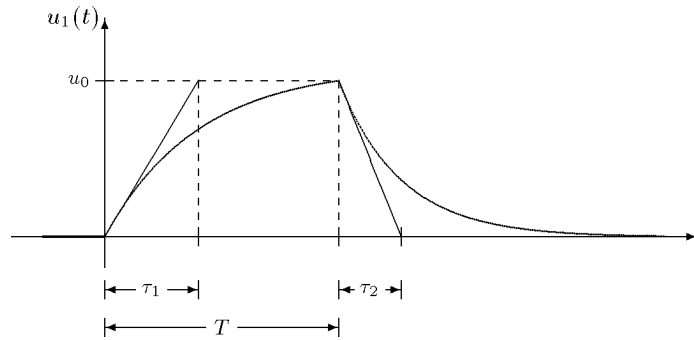

Figure 22-4: Double exponential pulse
3. Double exponential pulse DEXP / DEXP (see Figure 22-4)